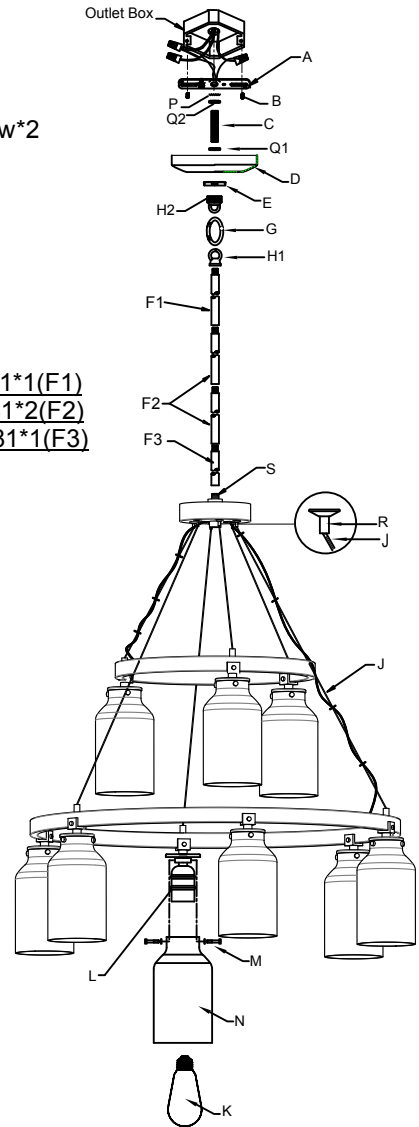

Fig. 3
CONNECTING THE WIRES (Fig. 3)
9. At this point, connect the electrical wires as shown in figure 3, making sure that all wire connectors are secured. If your outlet has a ground wire (green or bare copper), connect the fixture's ground wire to it. Otherwise, connect the fixture's ground wire directly to the crossbar using the green screw provided. Tuck the wire connections neatly into the ceiling outlet box and then raise the canopy (D) all the way to the ceiling. Thread the loop collar (E) to the ceiling loop (H2) to secure the canopy (D) against the ceiling.